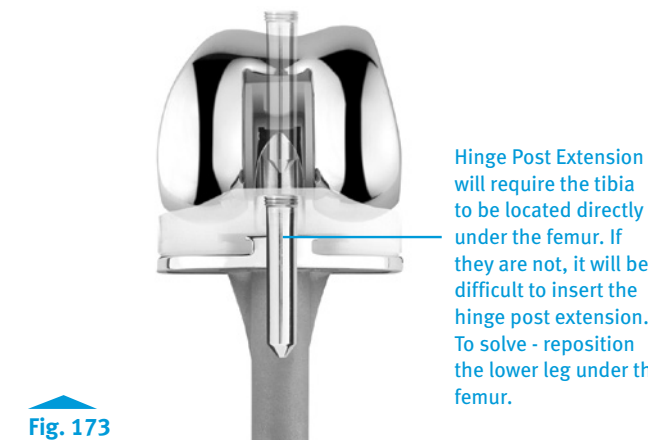

Fig. 173
- It is possible to address this concern at the time of implant assembly by following these recommendations. If difficulty is encountered in assembling or disassembling the provisional hinge post components, it is necessary to reposition the lower leg (tibia) under the femur until the hinge post extension pin slips easily into place. The same is true for the implant assembly. The hinge post extension should easily slide through the hole in the top of the hinge post and into the tibial base plate (Fig. 173).